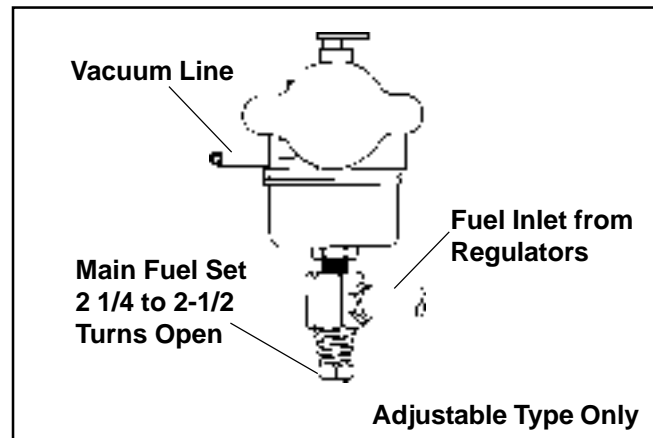

Figure 5-16. LPG Main Fuel Setting.*
1. With the engine stopped, reset the main fuel setting by closing the adjusting screw until it bottoms then turn it 2 1/4 to 2 1/2 turns open (see Figure 5-16).*